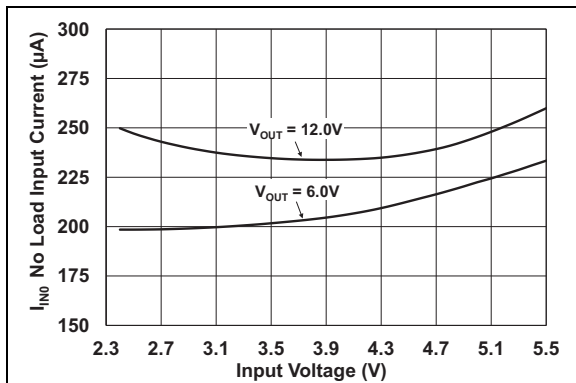

FIGURE 2-8: No Load Input Current, I_{IN0} vs. V_{IN} ($EN = V_{IN}$).
- I_{IN0} varies with input and output voltage (Figure 2-8). I_{IN0} is measured on the V_{IN} pin when the device is switching ($EN = V_{IN}$), at no load, with $R_{TOP} = 120\text{ k}\Omega$ and $R_{BOT} = 1.05\text{ M}\Omega$.
- 2:** I_{IN0} varies with input and output voltage (**Figure 2-8**). I_{IN0} is measured on the V_{IN} pin when the device is switching (EN = V_{IN}), at no load, with $R_{TOP} = 120\text{ k}\Omega$ and $R_{BOT} = 1.05\text{ M}\Omega$.